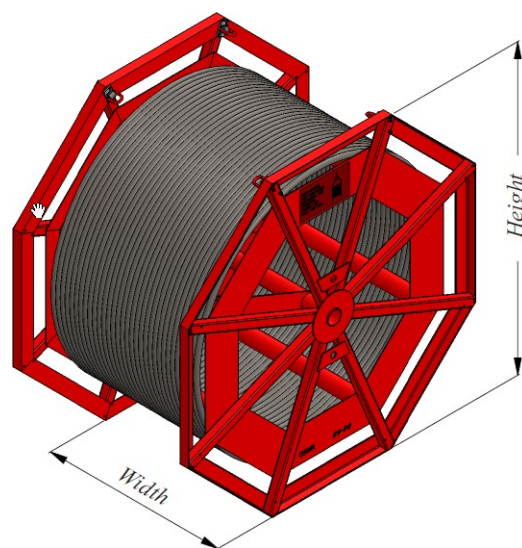

Figure 1: Octagonal Wire Rope Reel
- ✓ Reel **MUST** be positioned so that the bore is aligned with a combing rail upright to enable the front chain is vertical. See Figure 1.